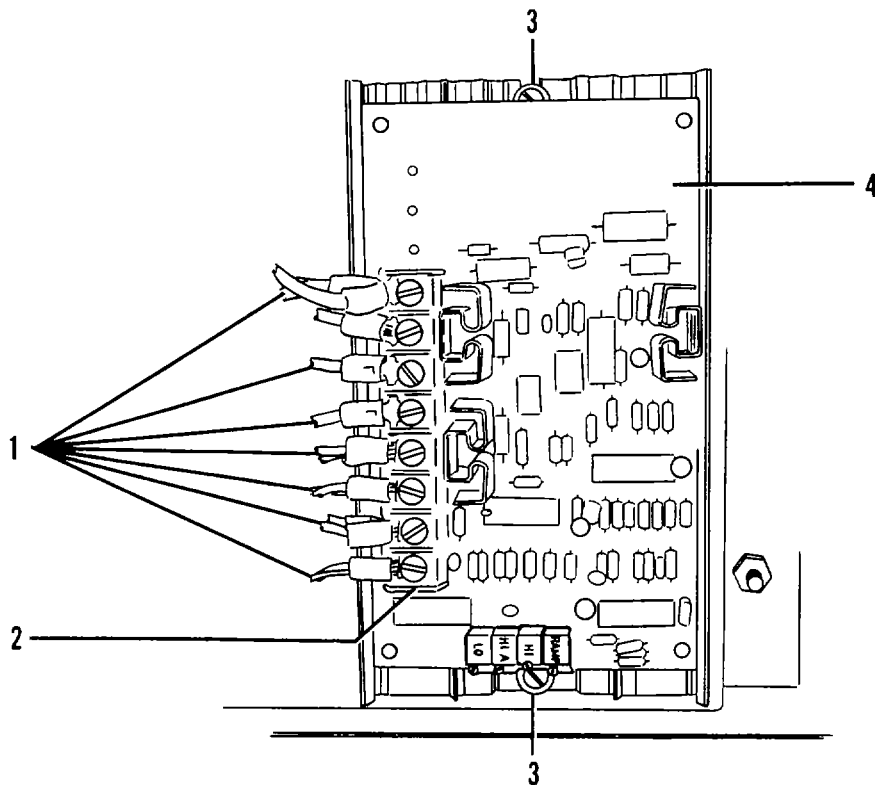

Figure 4-5. Printed Circuit Board Replacement.
- (a) Tag and remove eleven wires (1, Figure 4-5) from printed circuit board terminal strip (2).
- (b) Remove two screws (3) from printed circuit board (4), remove board and discard.
(2) Installation:
- (a) Position new printed circuit board (4) in junction box and install two screws (3).
- (b) Connect previously tagged wires (1) to printed circuit board terminal strip (2).